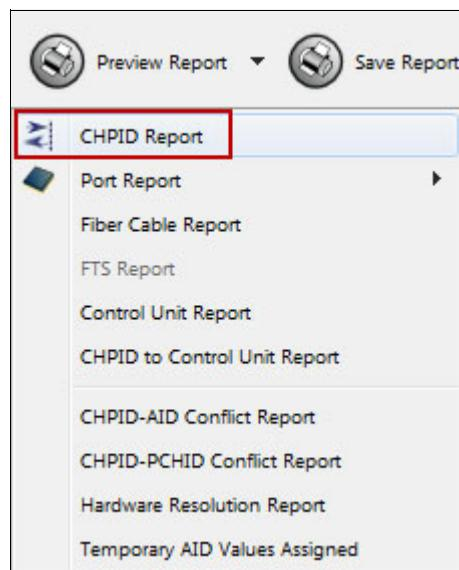

Figure 4-41 Preview report: CHPID Report
1. Click **Preview Report** → **CHPID Report** (Figure 4-41).